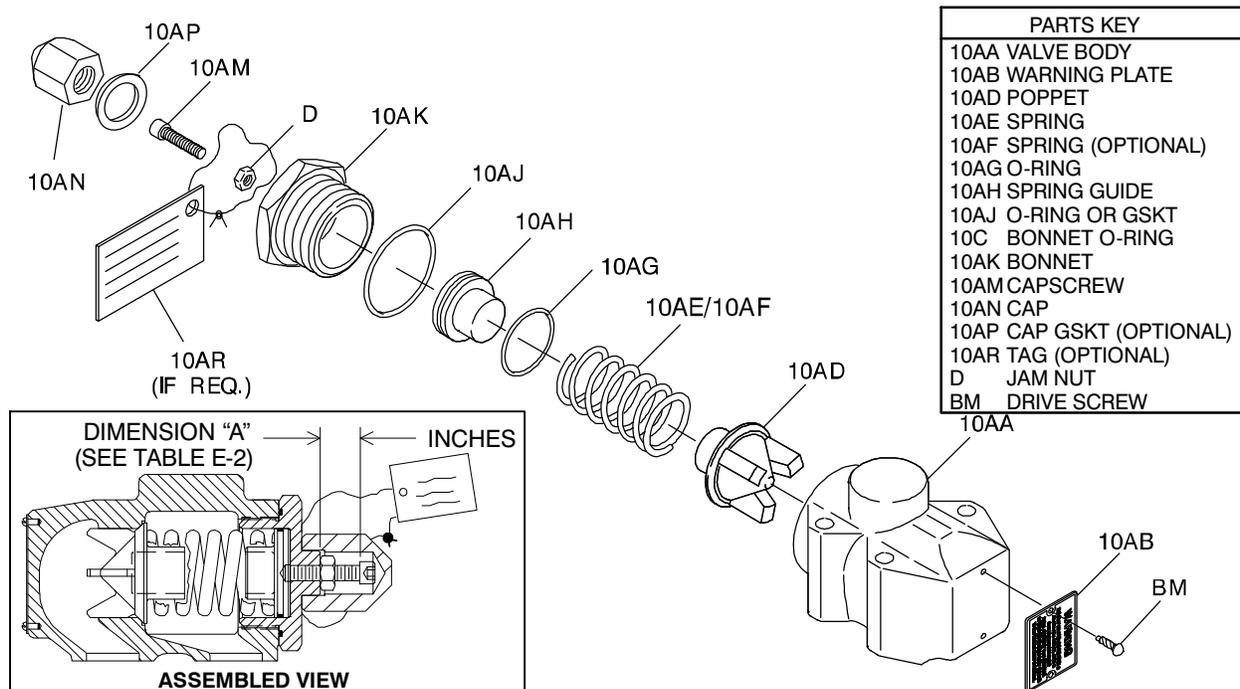

Figure E-7. Pressure Relief Valve Assembly
(Figure E-7)
Install the jam nut (D) on the adjustment capscrew (10AM), and thread the capscrew into the bonnet until the desired height ("A", Figure E-7) is reached. Refer to the separate Parts List accompanying your pump, and determine the specific hydraulic size. See Table E-4 and adjust the capscrew (10AM) to the proper "A" dimension for desired cracking pressure.